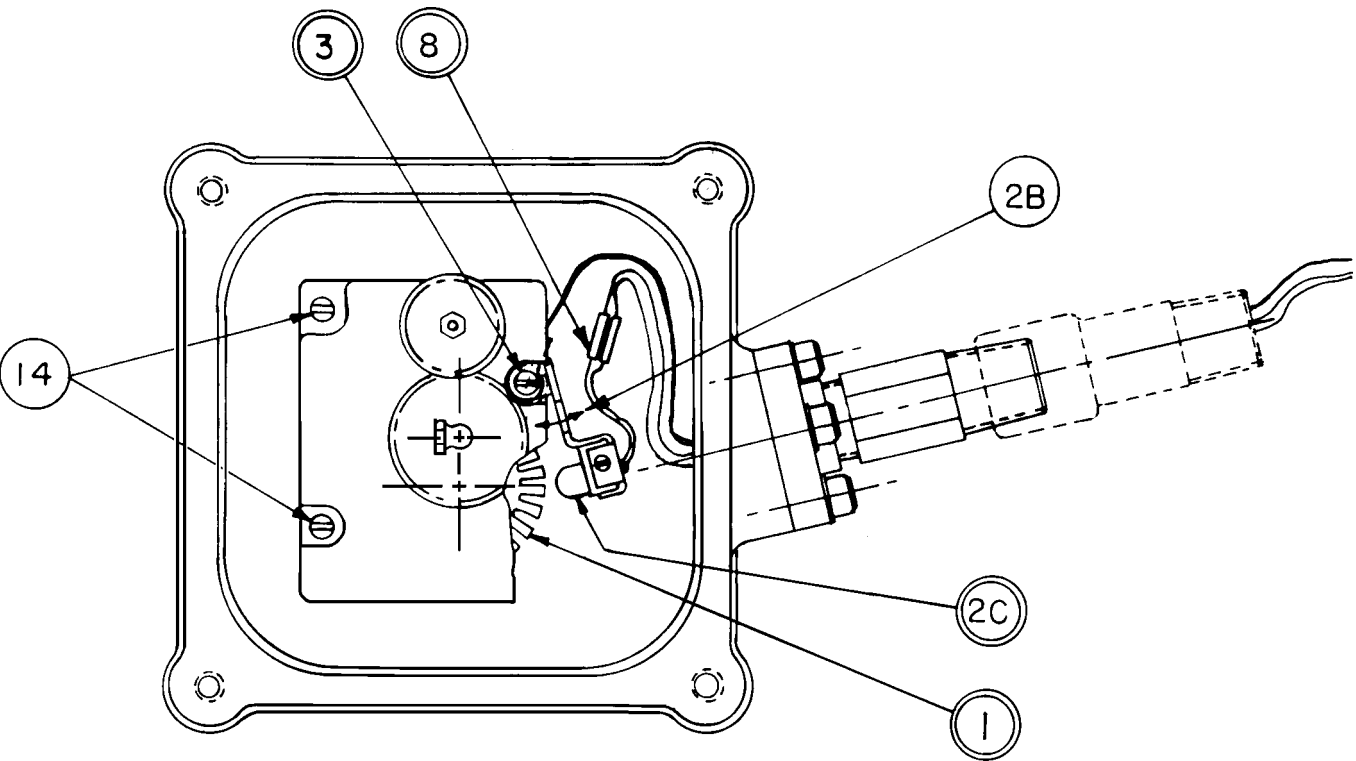
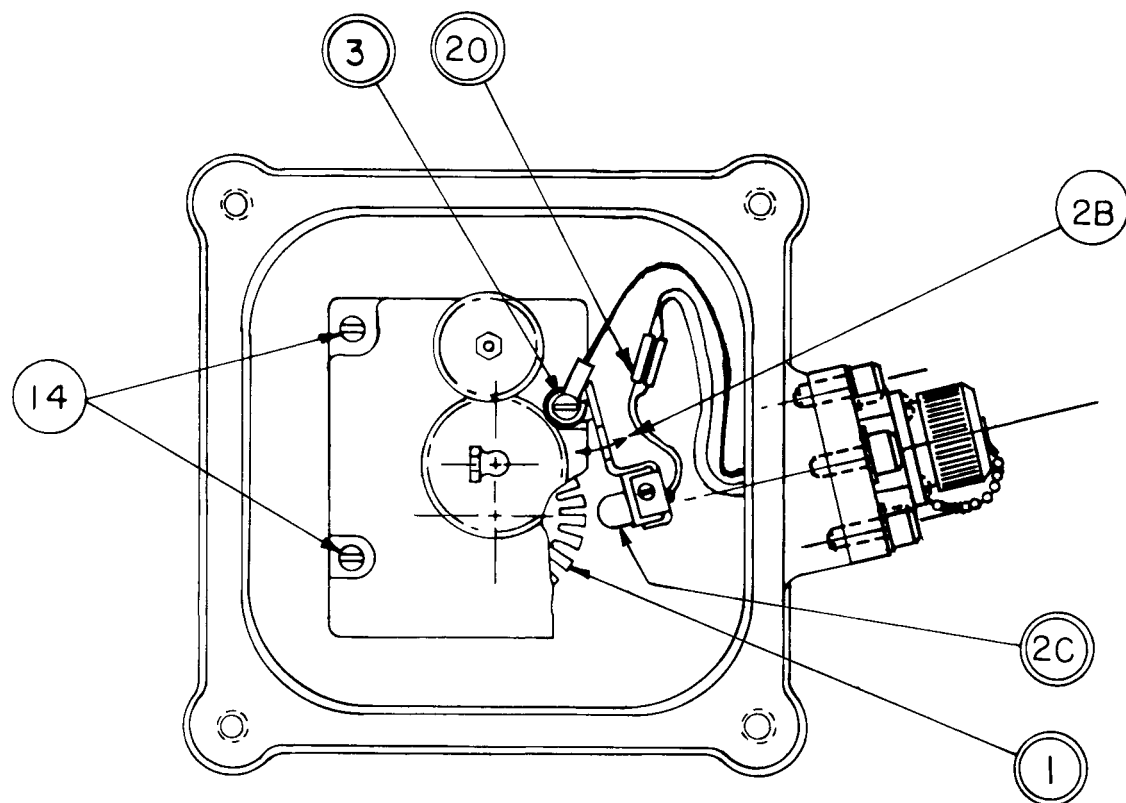

FIGURE 3
FIGURE 7
Refer to Figures 3 and 4 for conduit connector, Figures 7 and 8 for plug-in connector.
- 1 Loosen screw (3)—this will allow the sensor assembly to pivot (2B) (Figure 3).
This can be accomplished by pivoting the sensor assembly until the chopper disc contacts the back of the switch slot, then back off the sensor assembly to provide approximately $\frac{1}{16}$ " clearance (Figures 3 and 4 or 7 and 8).